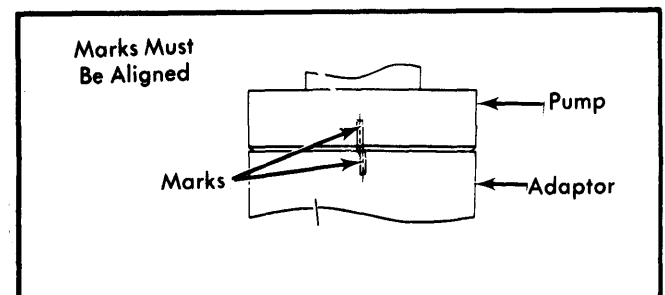

Fig. 2 Timing Marks on Injection Pump & Adaptor
1) Check alignment of injection pump marks. If marks are not within tolerance shown in Fig. 2, timing is necessary. Loosen 3 retaining nuts (use J-26987) and turn pump with 3/4" wrench on boss at front of pump. Tighten nuts and adjust throttle linkage.